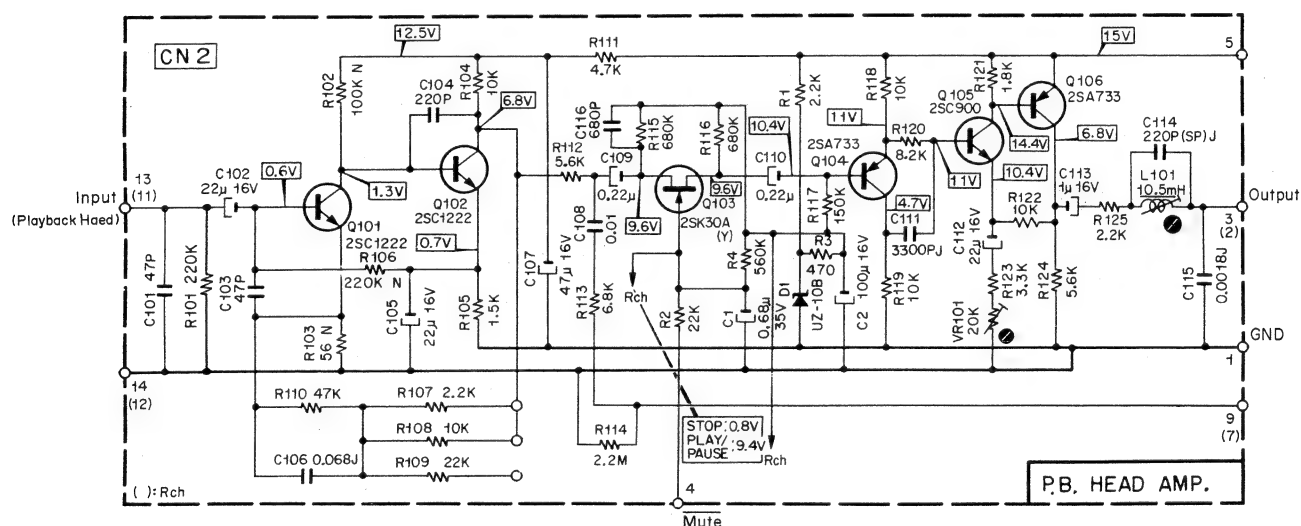
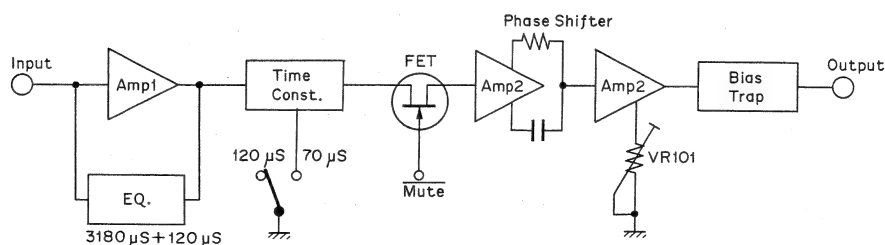

Fig. 2.2.11 Playback Head Amp. Circuit Diagram
Fig. 2.2.12 Playback Head Amp. System Diagram
Fig. 2.2.11 shows the playback amplifier circuit, and Fig. 2.2.12 is its system diagram. The playback head is connected with terminals 13 (11) and 14 (12). Terminal 4 is provided for the mute signal. Terminal 9 (7) is connected with the EQ switch which is used to select a time constant according to the characteristics of the magnetic tape used.